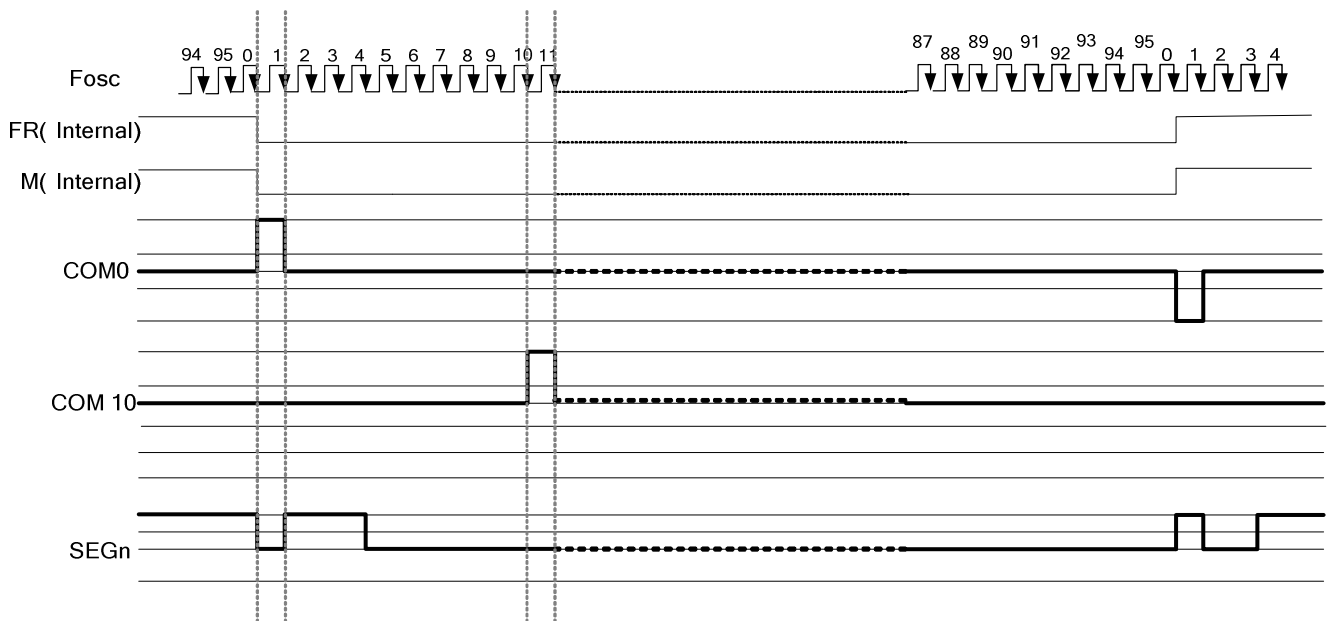

Figure 7.5 2-frame AC Driving Waveform (Duty Ratio: 1/96)
This circuit generates some signals for displaying LCD. The display clock, which is generated by oscillation clock, generates the clock for the line counter and the signal for the display data latch. The line address of on-chip RAM is generated in synchronization with the display clock and the display data latch circuit latches the 96-bits display data in synchronization with the display clock. The display data, which is read to the LCD driver, is completely independent of the access to the display data RAM from the microprocessor. The display clock generates an LCD AC signal (M), which enables the LCD driver to make an AC drive waveform, and also generates an internal common timing signal and start signal to the common driver. The frame signal or the line signal changes the M by setting internal instruction. Driving waveform and internal timing signal are shown in Figure 7.5.